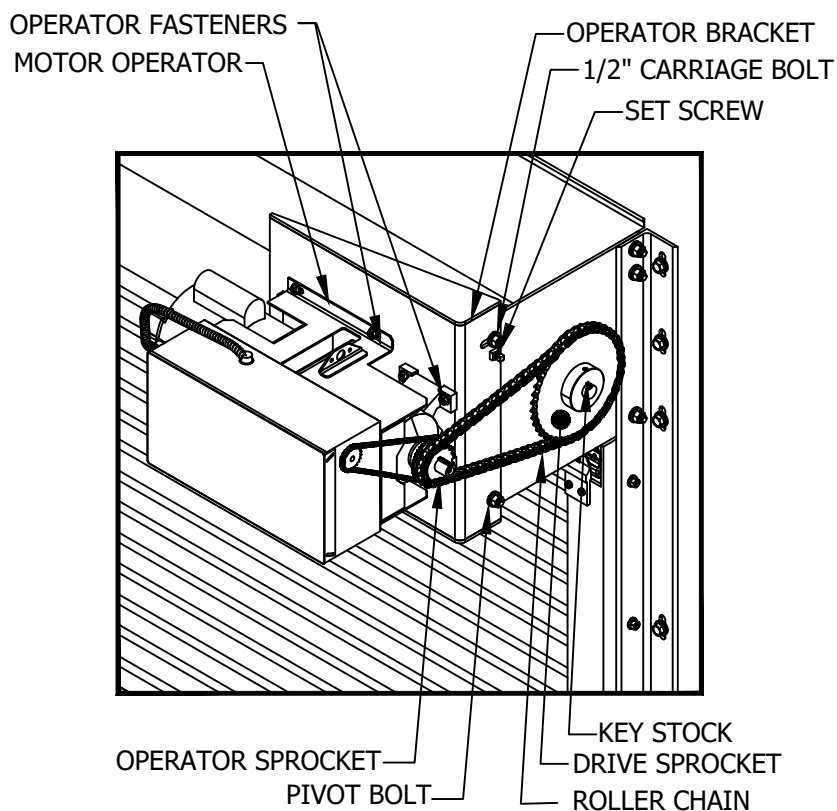

FIGURE C-1
- a. Attach the operator to bracket using the supplied carriage bolts and serrated flange nuts as shown in Figure C-1 & C-2.
- b. Install motor operator and bracket assembly to the drive side headplate with two 1/2" -13 X 1 1/4" carriage bolts as shown in Figure C-1 & C-2.
- c. Push the assembly toward wall as far as possible for drive chain installation, and temporarily secure the two carriage bolts as shown in Figure C-1 & C-2.